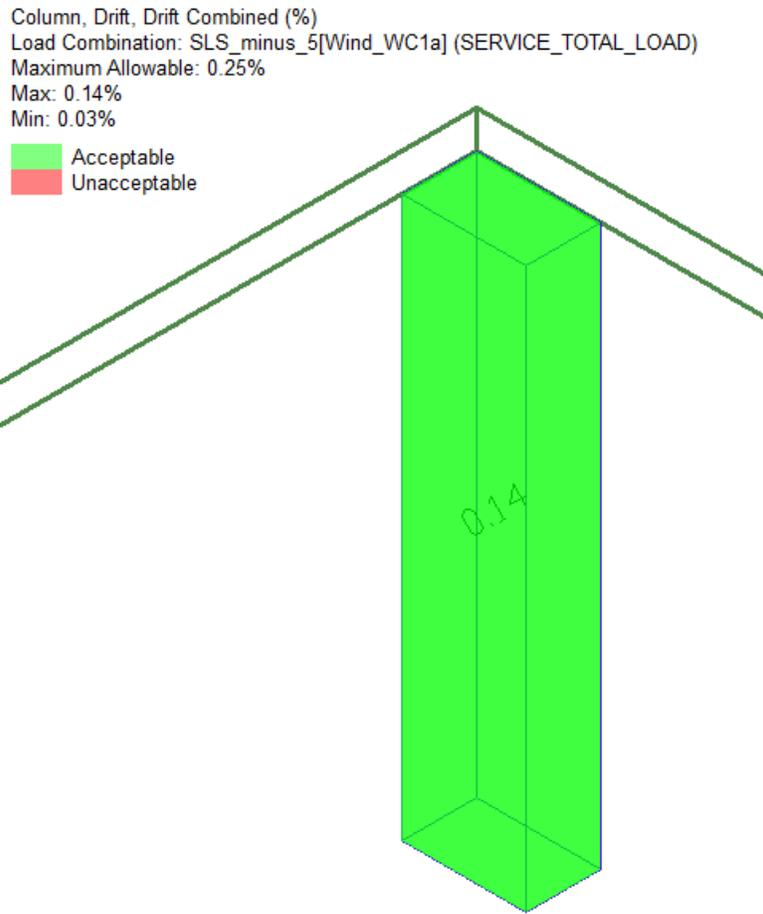

Figure 14-4
- In the same *Column* tree of the *Results Browser*, expand the *Drift* tree and select the option for *Drift Combined*. **FIGURE 14-4** shows the drift results. Note the green color indicates that the story drift meets the acceptance criteria. The global displacement reported above is the combination of X, Y and Z displacements. The drift check considers local axis r-r and s-s displacements. The colorization is based on the entire set of combinations so even if one combination does not meet the acceptance criteria, the indication color will always be red. The values reported for drift is for the selected combination or envelope.